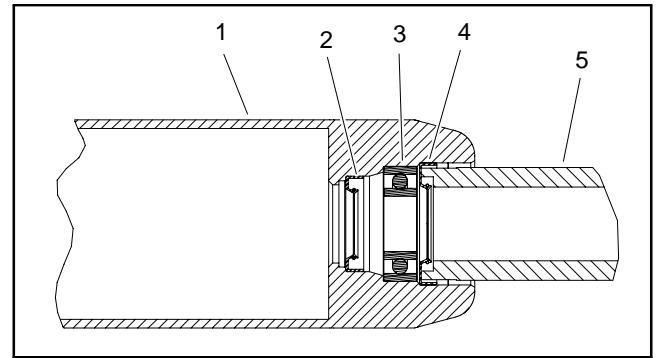

Figure 14
C. Install first outer seal into roller tube making sure that seal lip (and garter spring) faces end of tube. Use bearing/outer seal tool (see Special Tools) and soft face hammer to lightly seat seal against roller shoulder (Fig. 14). Make sure that bearing still freely rotates after seal installation.